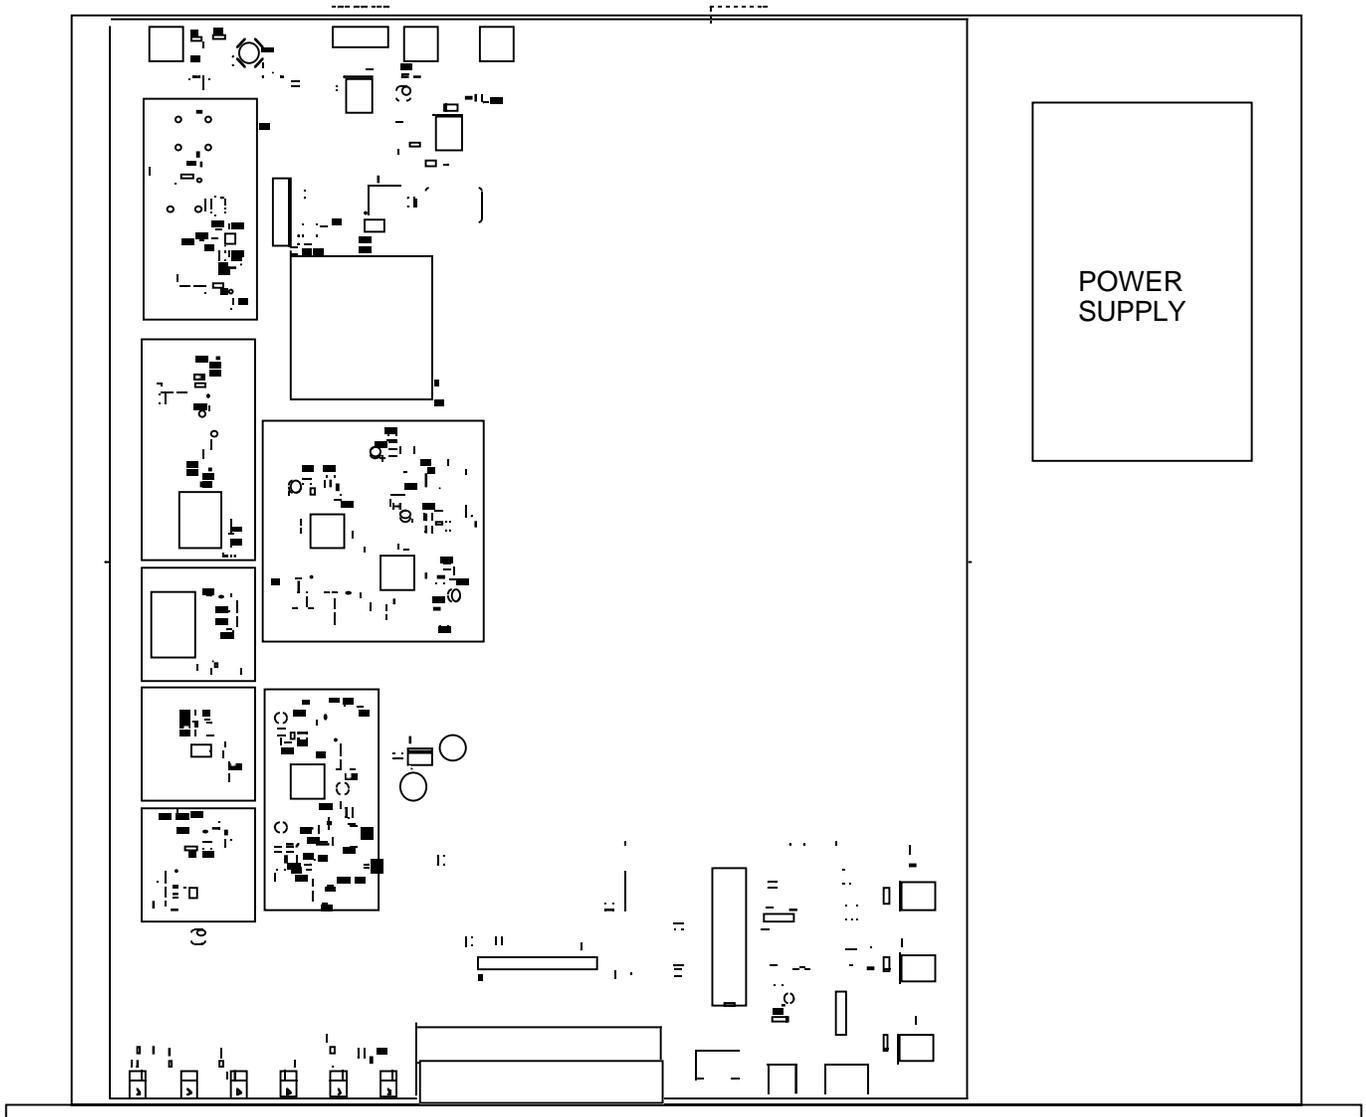

FIGURE 2.1 2015-26 Mechanical Assembly
2.1 Mechanical - The 2015-26 consists of one RF/Controller PCB housed in a 1 RU (1 3/4 inch high) by 16 inch deep chassis. A switching, ± 12 , +24, +5 VDC power supply provides power for the assemblies. The 2015-26 can be secured to a rack using the 4 holes on the front panel. Figure 2.1 shows how the 2015-26 is assembled.